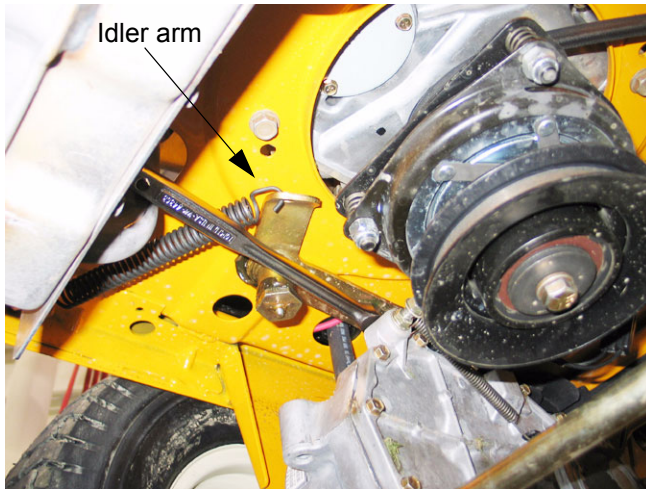

Figure 4.2
- 4.2. Pull the breaker bar to the right until it can be braced in position at the pivot point of the tensioner arm. See Figure 4.2.